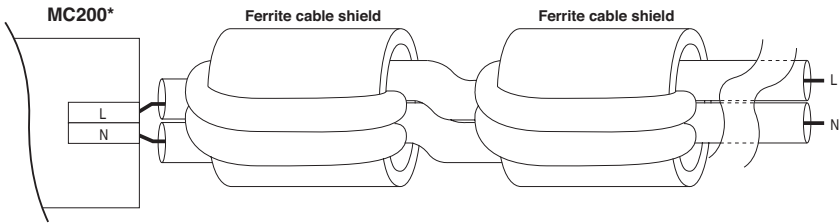

Fig. 4.a
- If used with an E'V valve, pass the power cables to the board inside a pair of MSFC ferrites (CAREL code 0907858AXX), near the power supply terminal on the MasterCase2 (Fig. 4.a).